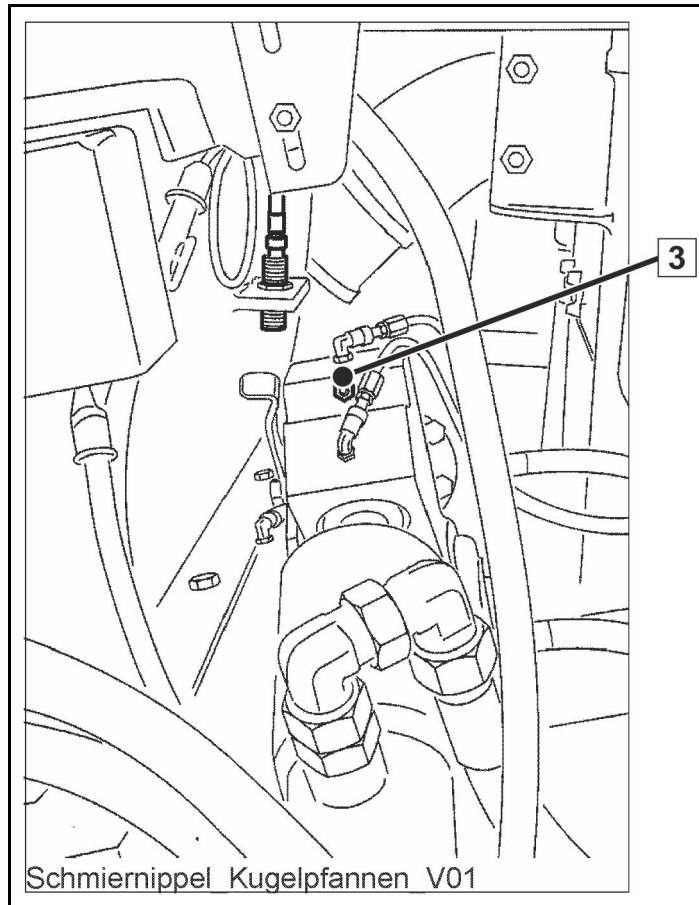

Fig. 323
The additional grease nipples, e.g. (1) (**Fig. 323**) do not have to be lubricated!